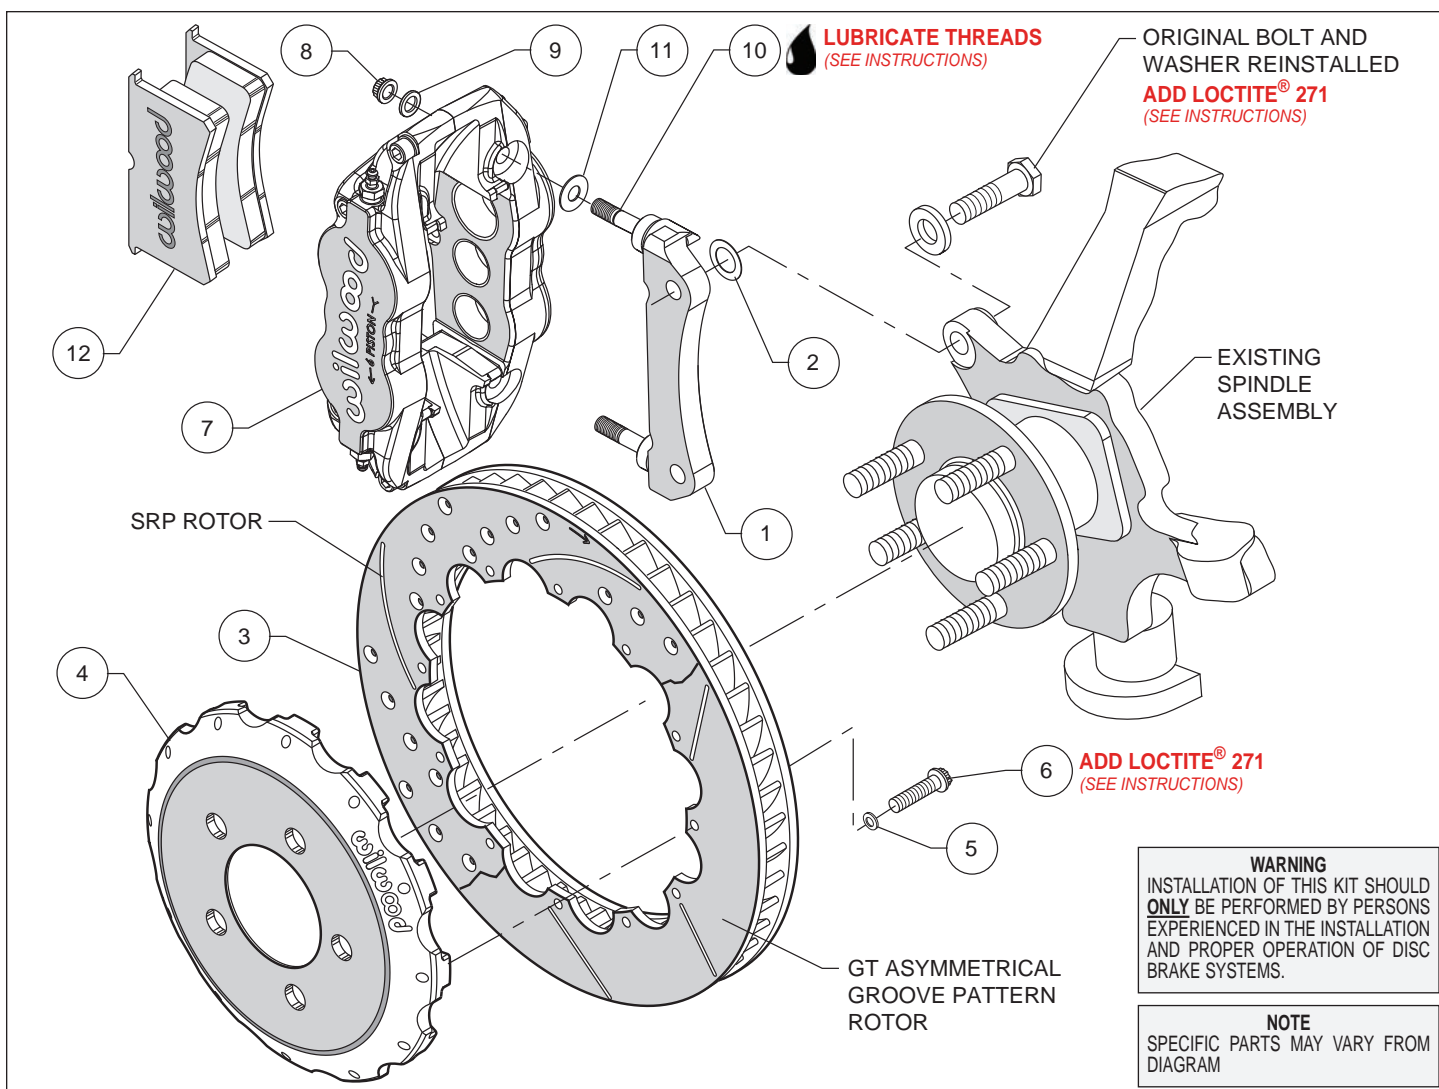
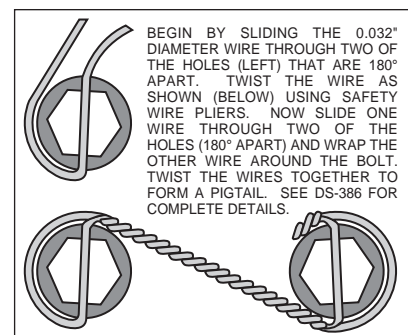

Figure 1. Typical Installation Configuration
Figure 3. Safety Wire Diagram
- Assemble the rotor (3) to the hat (4) with the bolts (6) and washers (5) as indicated in the configuration pictured in Figure 1. Using an alternating sequence, apply red *Loctite*® 271 to the threads and torque bolts to 155 **in-lb**. For an added measure of security, the bolts may be safety wired using standard 0.032 inch diameter stainless steel safety wire as shown in Figure 3. Please refer to Wilwood's data sheet DS-386 (available at www.wilwood.com/Pdf/DataSheets/ds386.pdf) for complete safety wire installation instructions.
- Install one shim (11) over each stud (10) on the radial mount bracket (1). Slide the caliper (7) in place over the studs and rotors and install the washer (9) and lock nut (8) to hold the caliper in place. The caliper bleed screws should be pointing up. Snug the lock nuts (8) and check that the rotor (3) is centered in the caliper (7). Add or subtract .015" shims (2) as necessary between the mount bracket and the spindle to center the caliper.
- Remove the caliper center bridge pad retainer bolt, nut, and tube from the caliper. Slide the brake pads (12) into place. They should install easily without interference. Check that the outside radius of the brake pad is aligned with the outside diameter radius of the rotor face. Add or subtract .035 shims (11) between the caliper and mount bracket to gain the proper alignment. Reinstall the center bridge pad retainer tube, bolt, and lock nut. The locknut should be snug without play in the bolt or tube. Be cautious not to over tighten.
- Once all clearances have been checked, remove the wheel, caliper, hat, and rotor from the spindle and hub. Secure the caliper mounting bracket (1) to the spindle using red *Loctite*® 271. Torque the bolts to 65 ft-lbs. Reinstall the hat and rotor assembly and again use several lug nuts to hold it in place. Lubricate caliper mounting studs and nuts with lightweight oil, reinstall the caliper, torque the caliper nuts (8) to 30 ft-lbs.